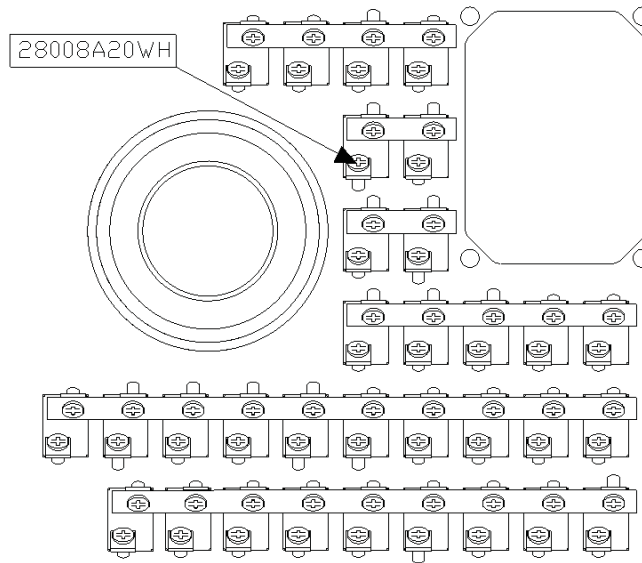

Figure 1
- 10.4 Disconnect wire 28008A20WH from XFR PUMP circuit breaker. Refer to Figure 1.